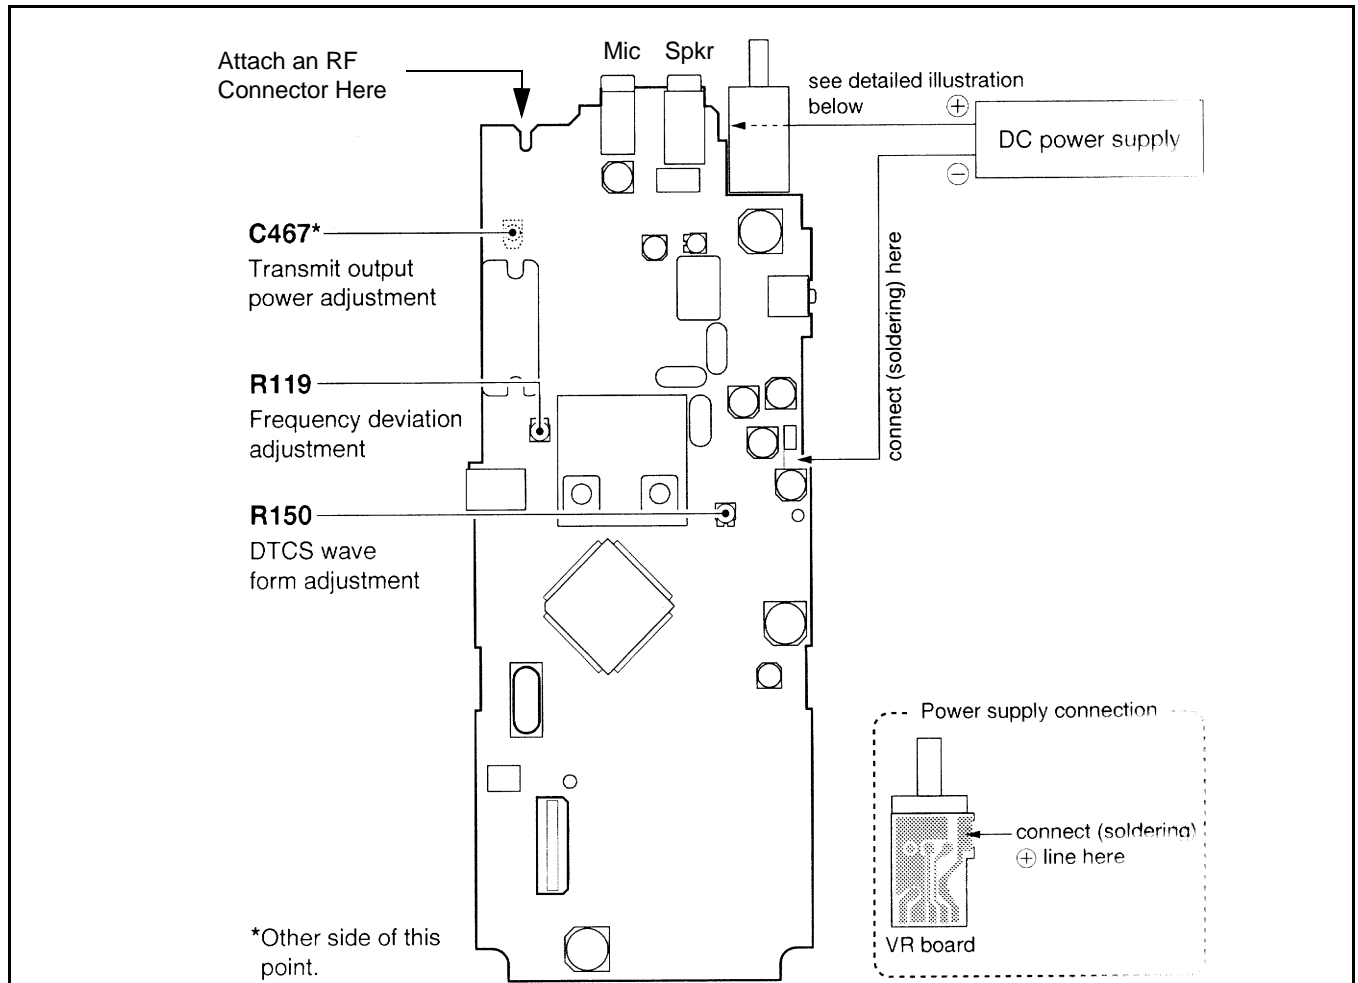

Figure 5-5 UHF Adjustment Points
4. Key the transmitter and adjust C467 located on the other side of the board (see Figure 5-5 and Section 5.2) for maximum power output.
4. Key the transmitter with the PTT switch and adjust R119 (see Figure 5-5) for the following maximum deviation:
3. Adjust R150 (see Figure 5-5) for a flat waveform as shown below.